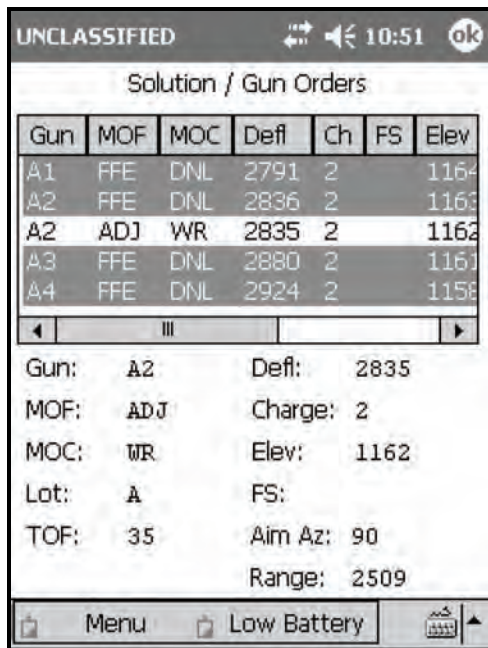

Figure 18-92. Search and Traverse: initial solution.
(16) Select Use All.
(17) The Solution/Gun Orders screen (Figure 18-92) displays.